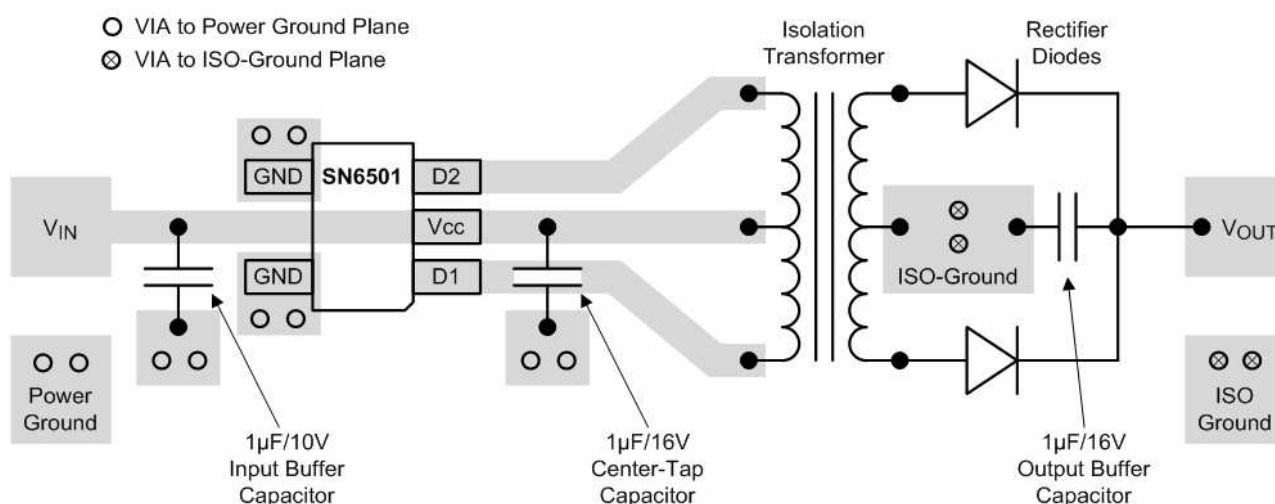

Figure 57. Layout Example of a 2-Layer Board (SN6501)
- The optimum placement is closest to the V_{IN} and GND pins at the board entrance to minimize the loop area formed by the bypass-capacitor connection, the V_{IN} terminal, and the GND pin. See Figure 57 for a PCB layout example.